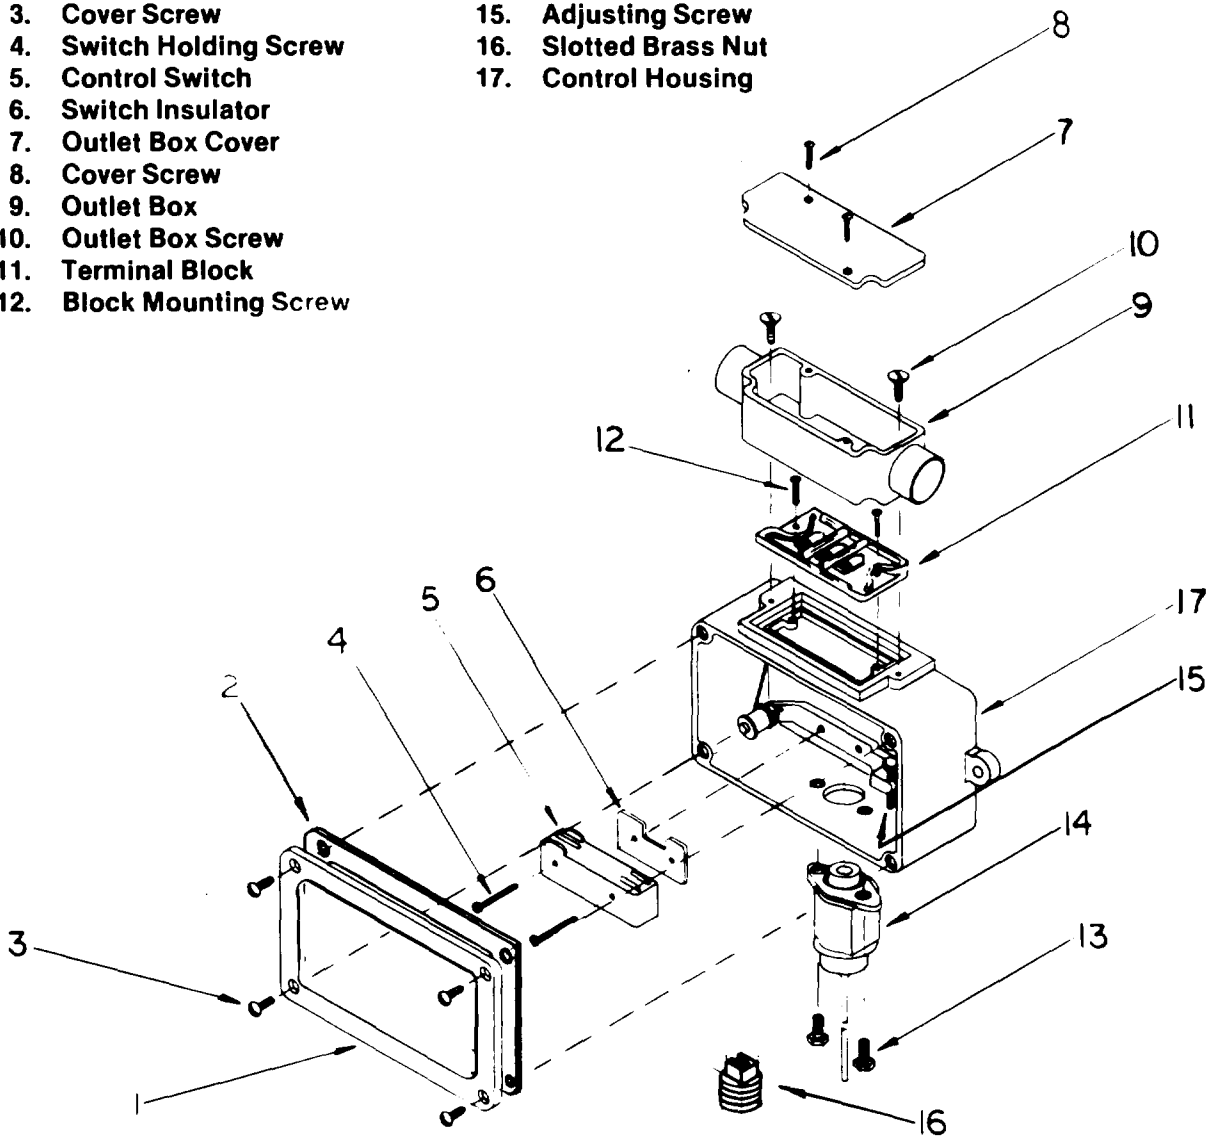

Figure 37. HIGH TEMPERATURE CONTROL
1. This is an internally set control. An adjusting screw inside the case is turned to position the switch for actuation at a specified temperature. Refer to Fig. 37 and adjust control.
3. Remove 2 screws from thermal element, Fig. 37, and remove thermal element by pulling down and away from control.